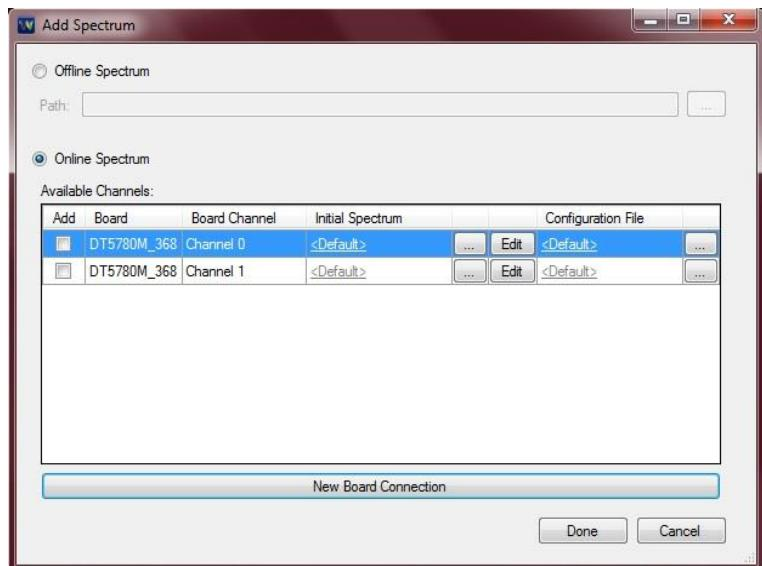

Fig. 4.6: MC²Analyzer Menu Bar - “File/Add Spectrum/New Board Connection/Connect/Close” Dialog Box
The following dialog box will then appear (see **Fig. 4.6**), allowing the user to select and mark the digitizer channels to be enabled for the acquisition and display of new live spectra:
- **Rebin Dialog:** Clicking on the “Rebin Dialog” allows the user to transform a High-Resolution Spectrum (i.e. a 16K channels spectrum) into a lower resolution spectrum (i.e. a 2 K channel spectrum) by clustering the values of the counts in the adjacent bins according to the rebin factor (i.e. the counts values of 8 adjacent bins of a 16K spectrum are summed into the corresponding single bin in a 2 K channels spectrum). Accepted values are: 16K, 8K, 4K, 2K, 1K. The same menu is available from the “**Edit**” function of **Fig. 4.6**, at the pull-down menu “**ADC channels**”.